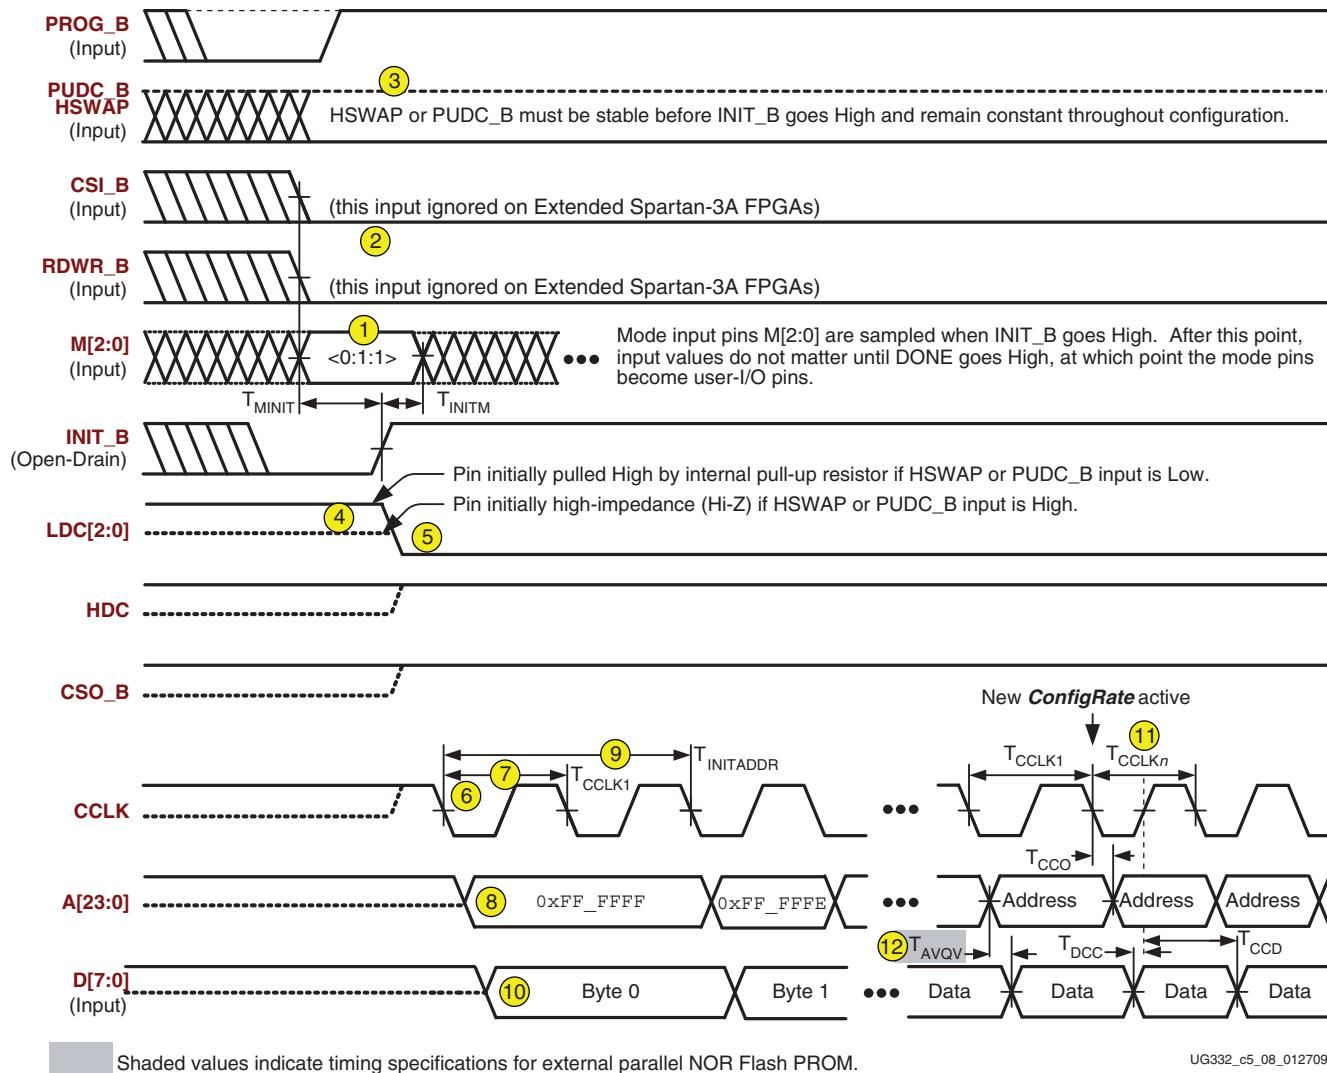

Figure 5-14: BPI Configuration Timing Waveform (Spartan-3E BPI Down mode shown)
Figure 5-14 provides a detailed timing diagram for the BPI configuration mode. The specific diagram is for the Spartan-3E FPGA family, using the BPI Down mode. However, the timing is also similar for the Extended Spartan-3A family FPGA families and for the BPI Up mode.
The following numbered items correspond to the markers provided in Figure 5-14.
3. The **HWSAP** or **PUDC_B** pull-up resistor control input must be setup and valid before the rising edge of **INIT_B**. Similarly, the example in Figure 5-14 shows the pull-up resistors enabled.